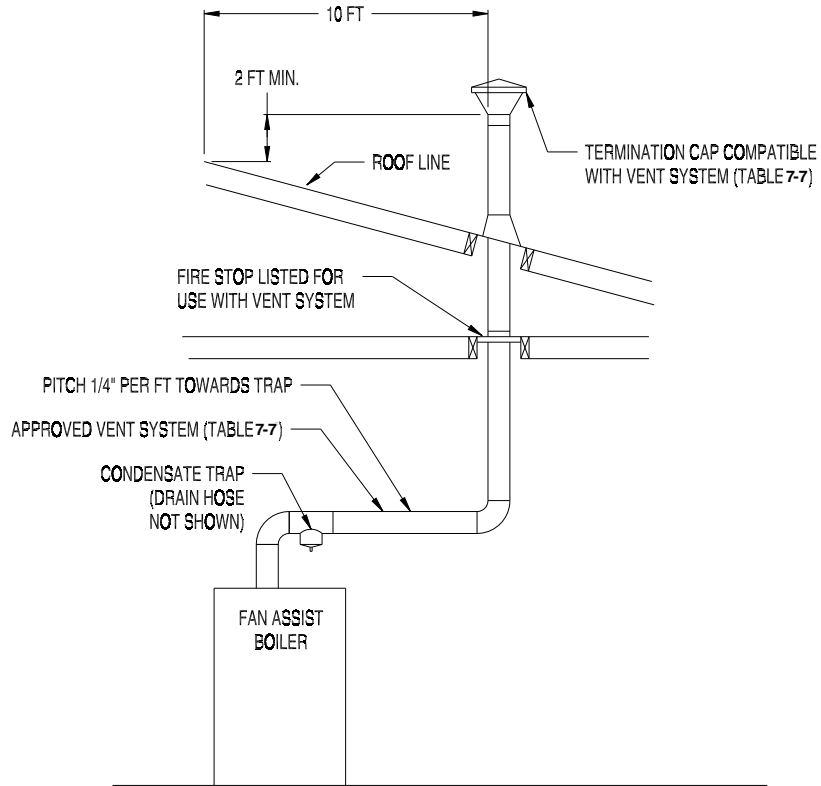

Figure 7-6: Vertical Direct Exhaust System (Vent Option 3, 4)
- G. Vertical Vent Terminal Locations (Vent Option 3, 4) - The lowest discharge opening on the cap must be at least 2 feet above any object located within 10 feet. (Figure 7-6)